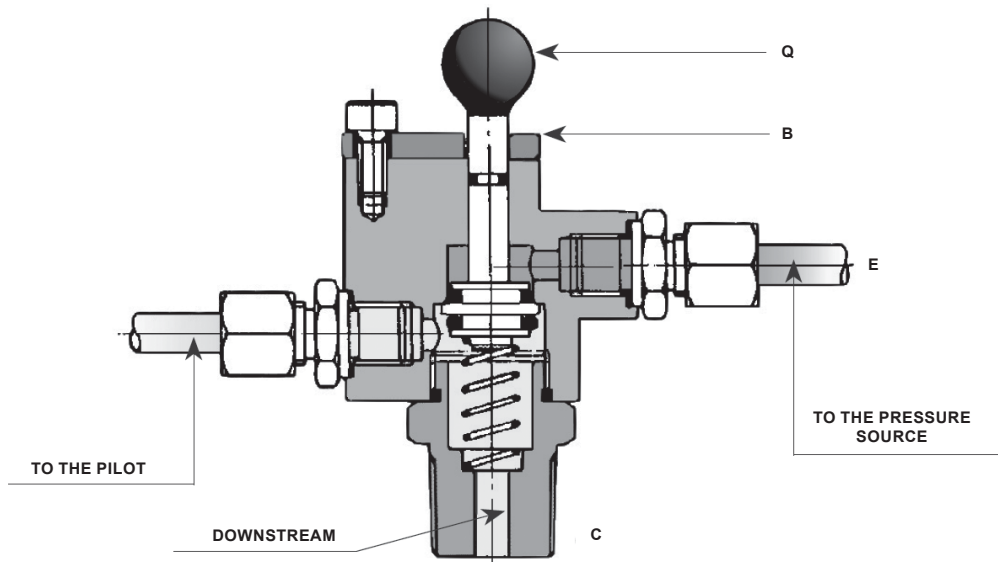

Figure 7. IT/3V Three-way Valve Installation
When the plate (B) is pivoted, pressure on the knob (Q) makes it possible to put the sensitive member into communication with a pressure source, thus making it possible to perform operation and setting tests. See Figure 7.